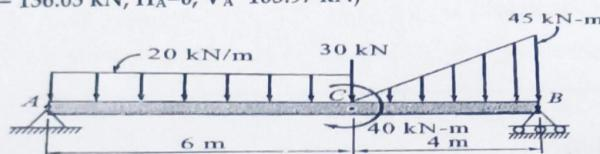

Fig 2.58
- 2) Find the Reactions at supports of the beam AB loaded as shown in the fig 2.58 below.